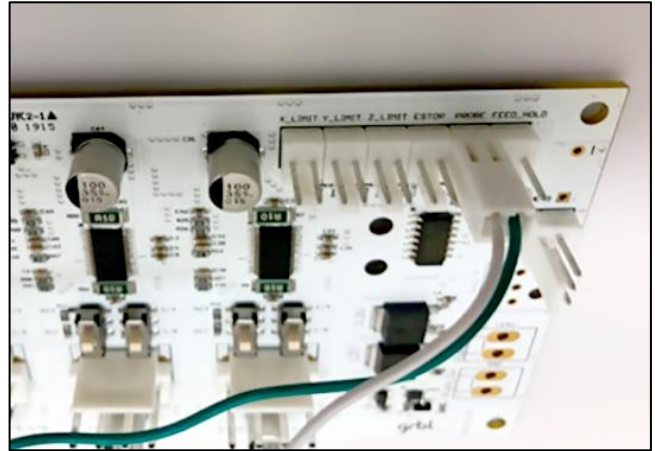

Figure 3
1. Connect the 2-pin connector (green and white wires) of the legacy adapter cable to the pins labeled *Probe* in the top-right corner of the Carbide Motion board. See **Fig. 3**.